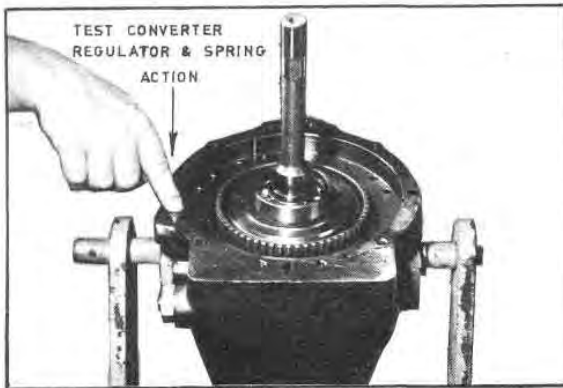

Fig. G26 — Compress the Converter Regulator Valve and Spring Action Prior to Removal
12. Before removing the converter regulator valve and spring from the forward and reverse housing (Figure G26), compress the valve and spring to ensure the valve has been operating freely, then lift the valve and spring from the housing.